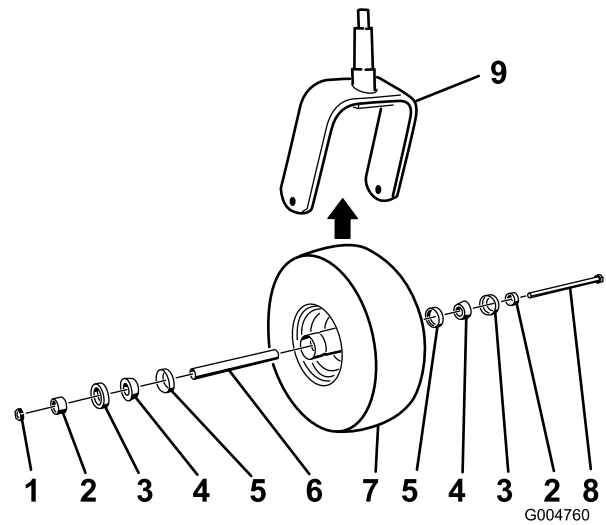

Figure 50
5. Assemble the caster wheel by pushing the cone bearings and seals, packed with grease, into the wheel hub, positioned as shown in Figure 50.
2. Remove the locknut from the bolt holding the caster wheel assembly between the caster fork (Figure 50).